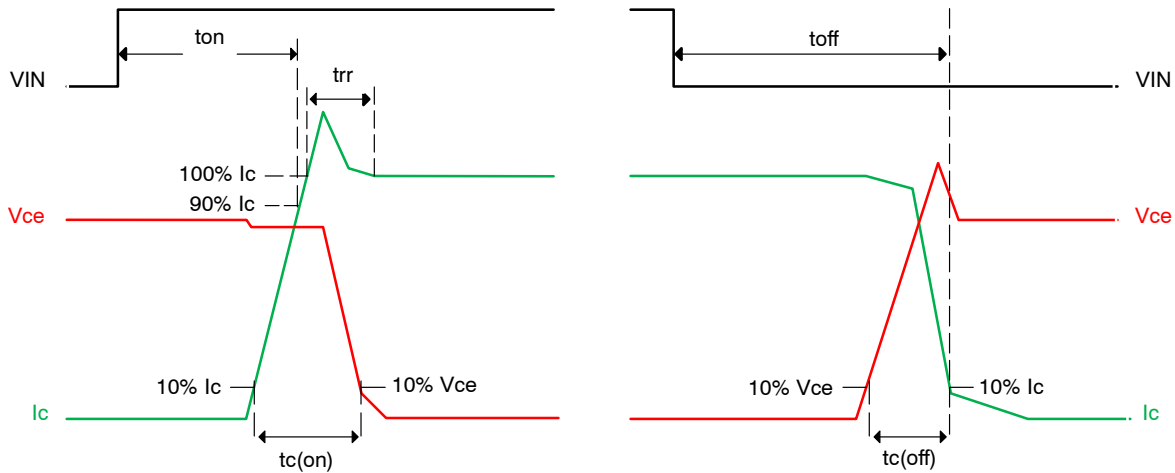

Figure 3. Switching Time Definitions
- ton and toff include the propagation delay of the internal drive IC. tc(on) and tc(off) are the switching times of IGBT under the given gate-driving condition internally. For the detailed information, please see *Figure 3*.